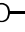

Fig. 5.18
- Switch beam control is provided on the switch assembly LH on the left hand side of the handle bar. (Fig. 5.18)